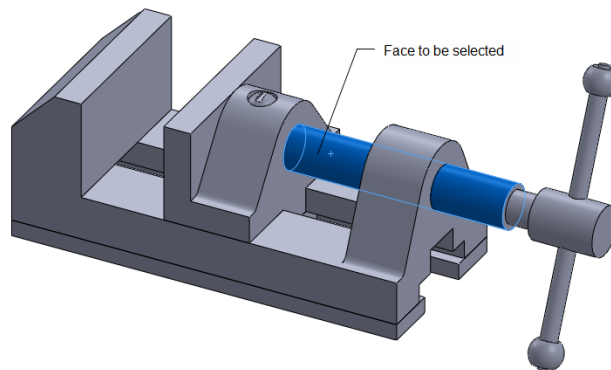

Figure 20-22 The face to be selected
3. Click in the **Motor Location** collector and select the cylindrical face of the Jaw Screw, refer to Figure 20-22. The selected face will also be added in the **Motor Direction** collector.